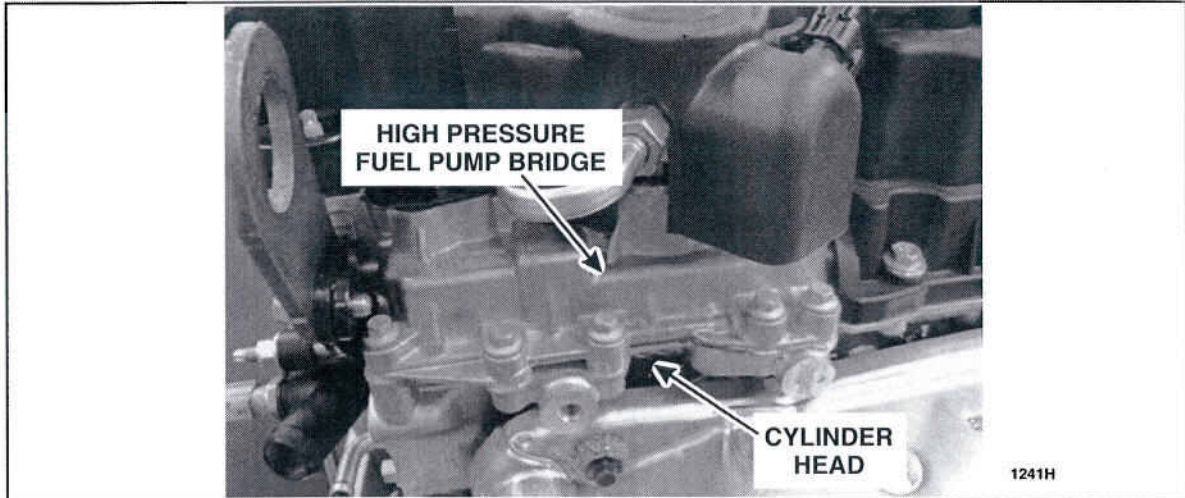

FIGURE 9
19. Inspect for oil leaks at the rear of the cylinder head where the high pressure fuel pump bridge meets the cylinder head. Use an inspection mirror and light if necessary. See Figure 9.